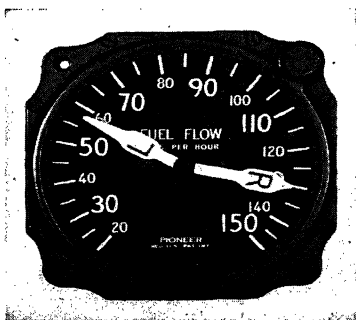

Fig. 53.—Autosyn fuel-flow indicator.
**Fuel Flow Indicators.**—The transmitting element, located in the fuel supply line to each engine, operates a quantity per unit time indicator. Autosyn has made possible accurate fuel flow indication, as in Fig. 53.